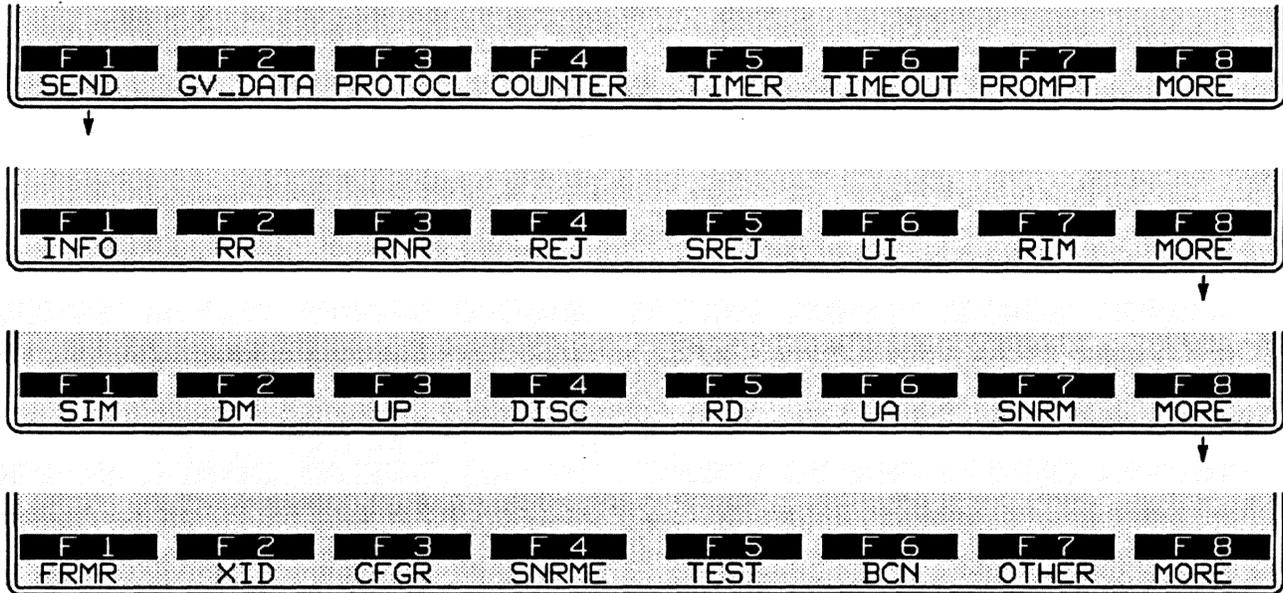

Figure 35-19 SEND actions always specify a frame type.
(Only at Layer 1 can data be generated as a simple character string without any protocol building blocks.) The complete set of frame types is given in Figure 35-19.
4. *Other frames.* Any frame type may be entered in a SEND action as a hexadecimal value instead of by name. Press the softkey for OTHER, on the bottom rack in Figure 35-19. Enter the hex value in the form of two alphanumerics. Here is a DISconnect command entered as a SEND OTHER action: